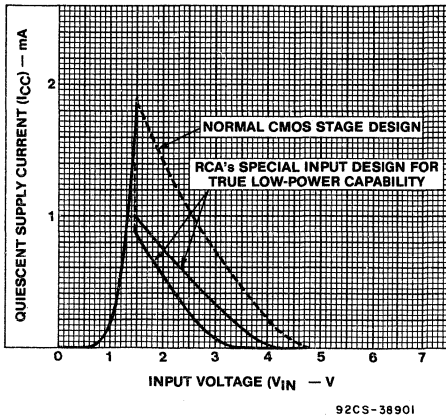

Fig. 30: I_{CC} vs. V_{IN} for HCT types
Fig. 30 illustrates the typical I_{CC} vs. V_{IN} characteristic of HCT type devices. Again, if input voltages are 0.1V or (V_{CC} - 0.1V), no ΔI_{CC} value exists. Also for V_{IN} = 0.4V, ΔI_{CC} is zero. If V_{IN}, however, is an LSTTL logic high level of (V_{CC} - 2.1V) or approximately 3V for V_{CC} = 5V, then **significant** ΔI_{CC} does exist and is indicated in equation (B) as the ΔI_{CC} component.
The special input design of RCA's HCT types greatly reduces the value of ΔI_{CC} such that the added power is very small; for example, RCA's HCT power is minimal compared to LSTTL power. If this special input circuitry were not used, the ΔI_{CC} values would be relatively high as demonstrated by the dashed line in Fig. 30, and the HCT type would not have very low power when compared to LSTTL.